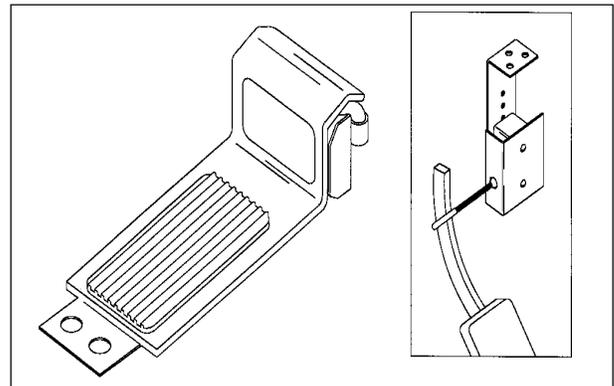

Figure 5-1
1. Mount the clutch switch in a convenient location near the clutch pedal so that movement of the clutch pedal will contact the clutch switch actuator arm. See Figure 5-1.